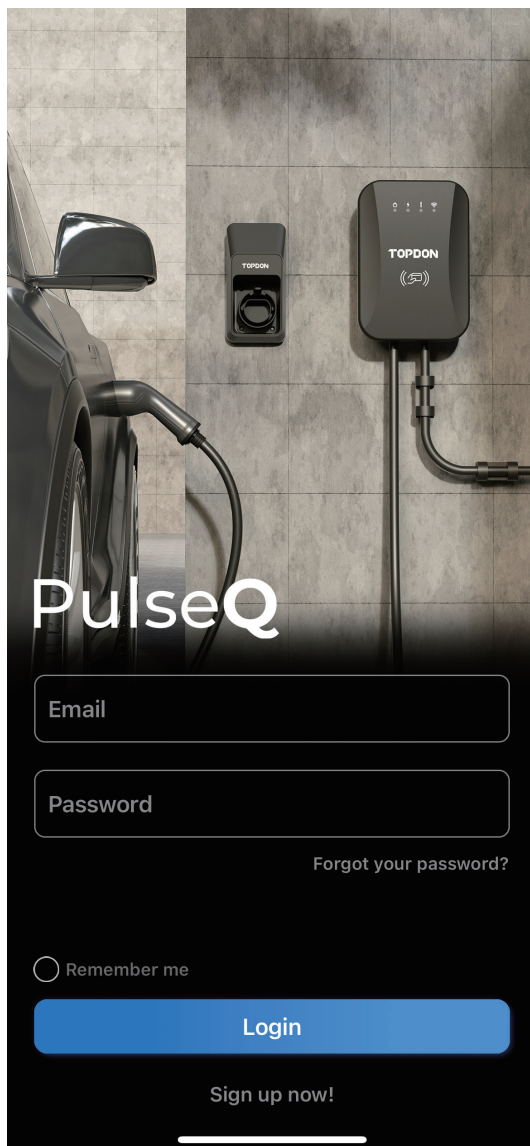

Fig.6.1.2
2. Register an account with your email address and login. (See Figure 6.1.2)